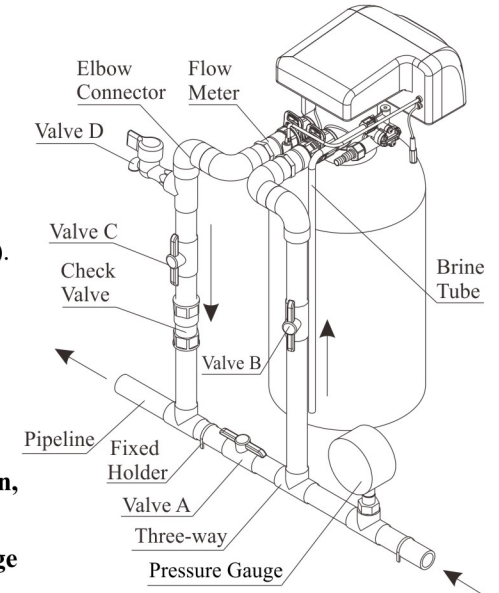

Figure1-3
④Pipeline Connection
a. As Figure1-3 shows, install a pressure gauge in water inlet.